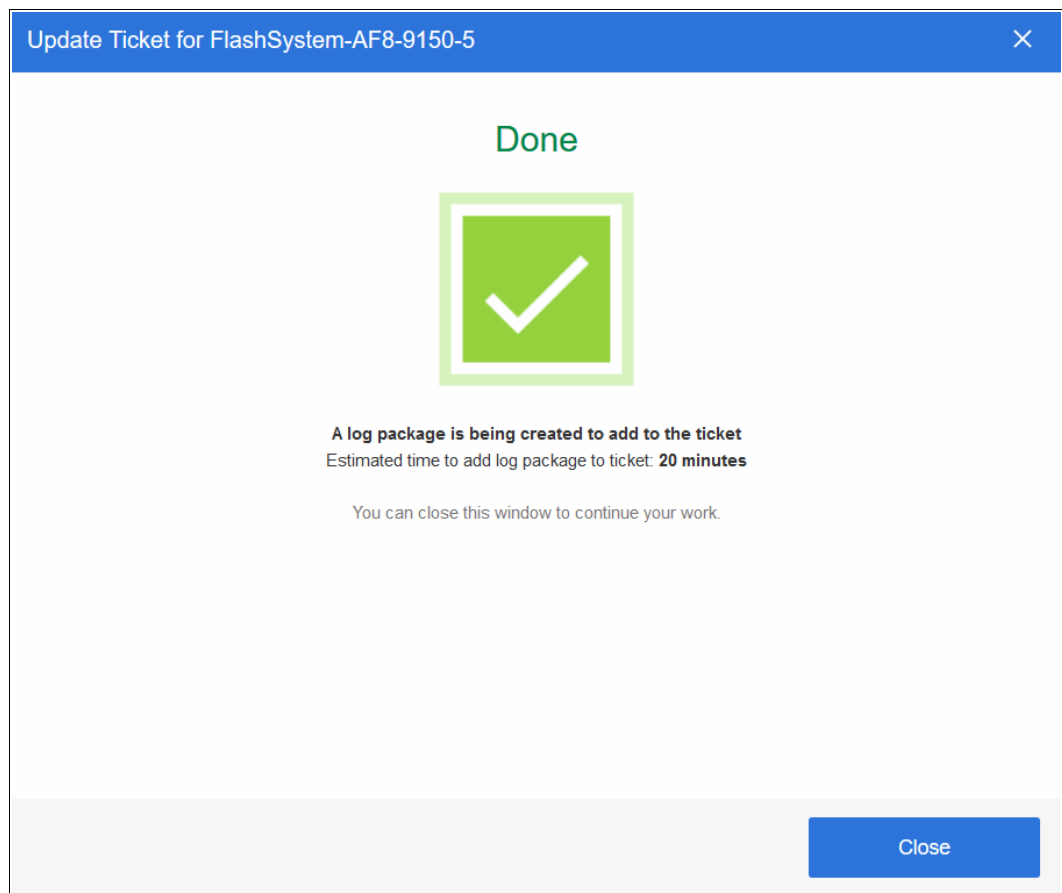

Figure 13-92 Confirming the log upload
3. After clicking **Update Ticket**, a confirmation opens, as shown in Figure 13-92. You can exit the wizard. IBM Storage Insights runs in the background to gather the logs and upload them to the ticket.